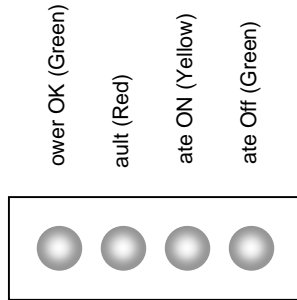

Fig. 13: Example of LEDs for visual feedback. This configuration applies to 5SHY xxLxx1x products
The optical status feedback output (SF) and the four LEDs (see Fig. 13) provide the user with information according to this table: